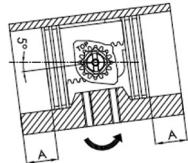

Fig. 15: Checking dimension A
- When the pistons have moved completely together, ensure that the obtained rotation with reference to the axis of the housing is slightly more than 0° and that dimension A is the same on both sides (see Fig. 15.).